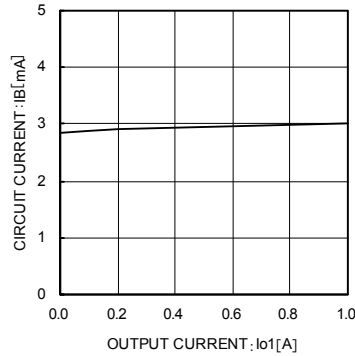

Fig. 2 Circuit Current vs Load Current I_{O1} (I_{O1} = 0 → 1 A)
* The Icc (circuit current) varies with the load. (See reference data in Figs. 2, 3, 14, and 15.)